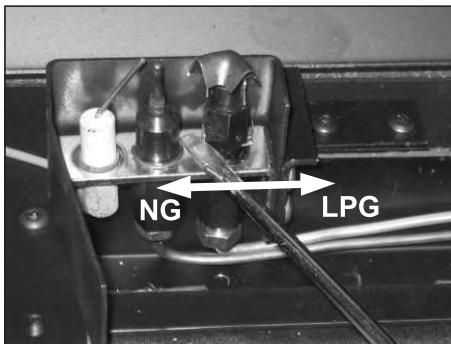

Figure 26: Setting Regulator gas type to LP.
- c) Push the slider, with your finger or flat head screwdriver, to the left if it is to be set for natural gas or to the right for propane, red on the slider will be visible (see Figure 26).